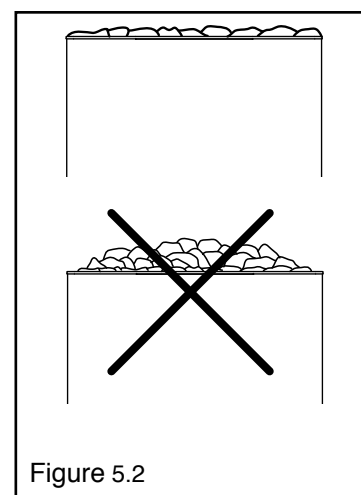

Figure 5.2
- Do not pile the stones above the top of the heater. See figure 5.2.